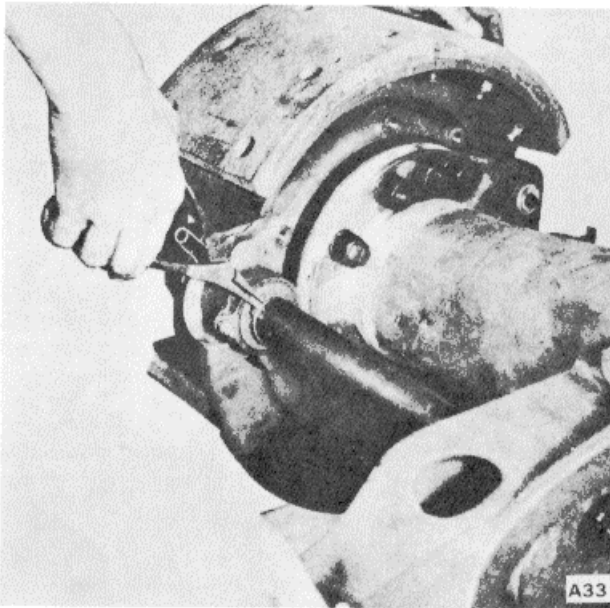

Figure 9C-9. Removing Camshaft
11. Remove brake dust cover and brake anchor pin lock, Figure 9C-10.